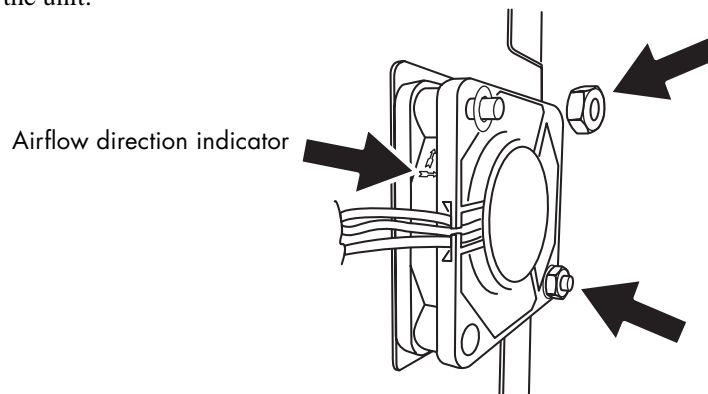

Figure 11.2.1d Fan replacement
2. Ensuring correct orientation (figure 11.2.1d) fit the new fan over the studs, and secure using the fixings removed in step 1. Ensure that the flow direction indicator arrow is pointing towards the inside of the instrument.